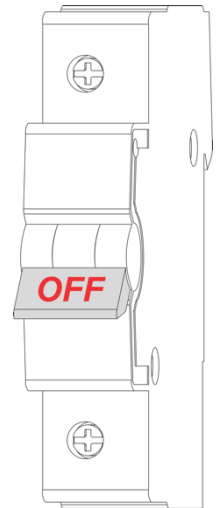
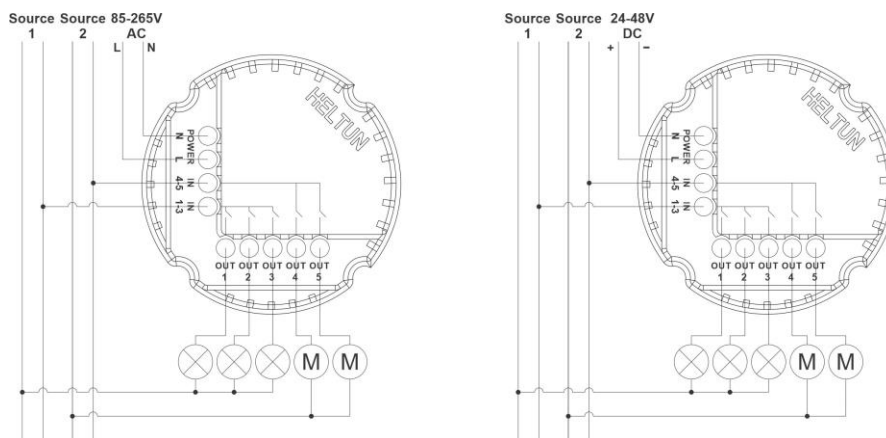

Figure 1:
Figure 2: Connection Diagrams
3. **FIRST ENSURE THE POWER IS OFF** at the main circuit breaker (Fig. 1), and then test the wires with a probe or multimeter to verify. Insert the power wires to the HE-TPS01 "POWER" terminal by inserting a small Phillips-head screwdriver in the slot beneath each terminal and unscrew to open. Follow *Fig. 2: Connection Diagram* and instructions below:
- **Power wires:** for AC power (85-265VAC) connect Line & Neutral wires to L & N terminals labeled "POWER" (Fig 2. left diagram). For DC power (24-48VDC) connect "+" wire to terminal N and "-" wire to terminal L (Fig 2. right diagram).